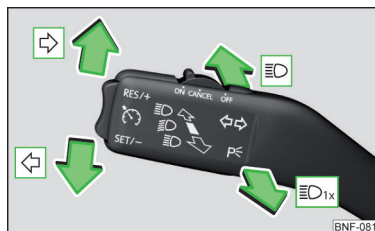

Fig. 41
Control stalk positions » Fig. 41
- Press the control lever all the way into position  or  until it stops» Fig. 41 on page 44.